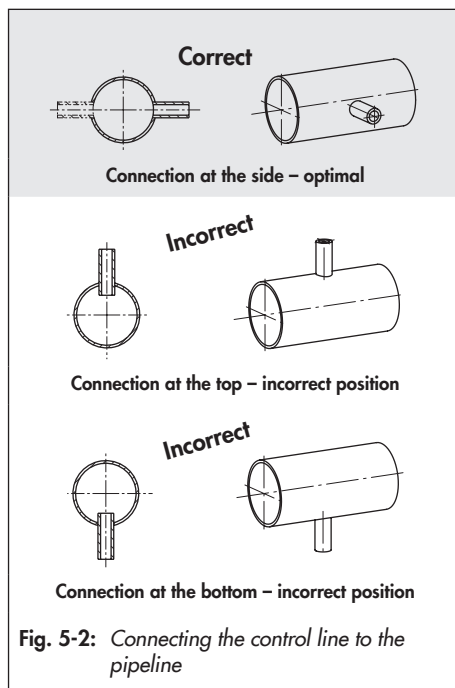
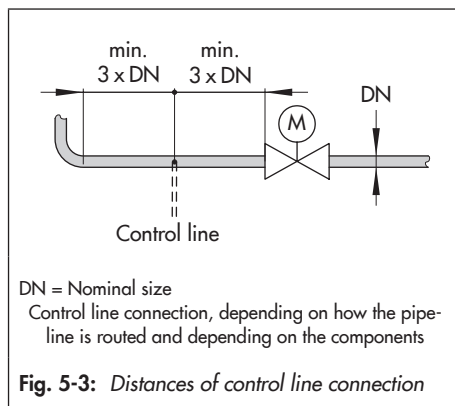

Fig. 5-2: Connecting the control line to the pipeline
Fig. 5-3: Distances of control line connection
- Preferably connect the control line to the side of the main pipe (see Fig. 5-2 and Fig. 5-3).